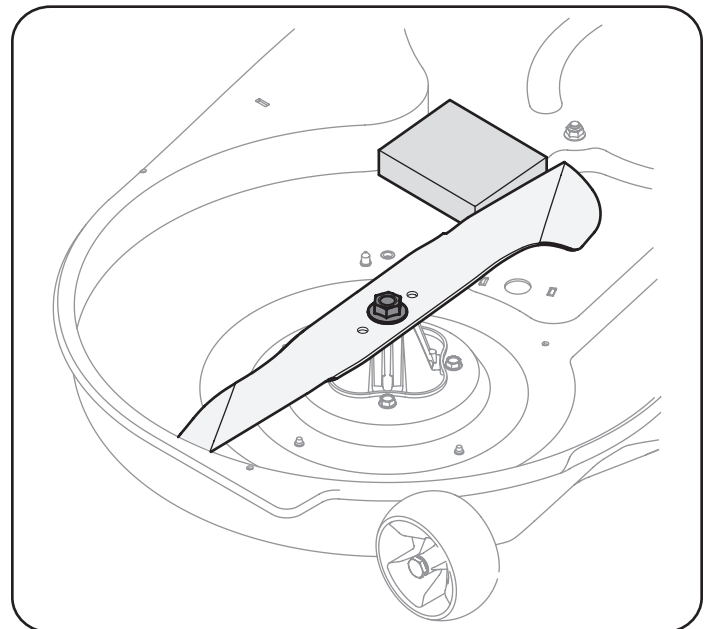

Figure 15
2. Place a block of wood between the center deck housing baffle and the cutting blade to act as a stabilizer. See Figure 15.
3. Remove the hex flange nut that secures the blade to the spindle assembly. See Figure 15.